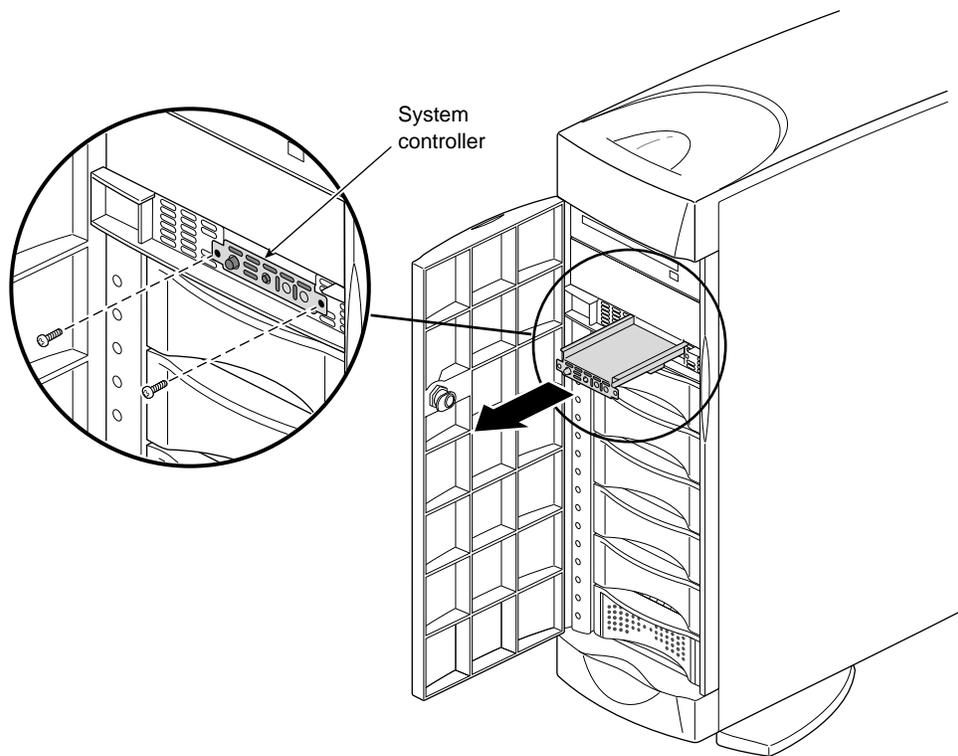

Figure 2-5 Detaching the System Controller Carrier From the Front of the Chassis
2. Unscrew the two screws that secure the controller board carrier to the front of the chassis, as shown in Figure 2-5.
6. Screw in the two screws that secure the controller board carrier to the front of the chassis, as shown in Figure 2-5.